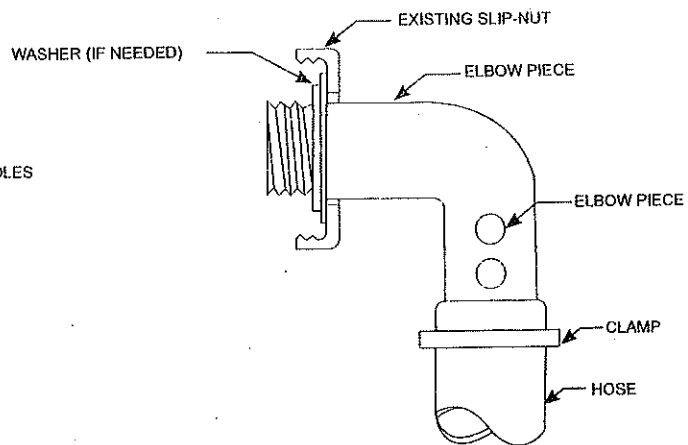

FIGURE 3
3. Refer to Figure 1. Uncoil the hose (3) and remove all twist. Using clamps (15), clamp one end of the hose to the back side of the fountainhead (1) and the other end to the inlet adapter from step 2. Cover one set of bleed holes with the hose (Fig. 3). To tighten clamp, grasp "tabs" between thumb and forefinger and squeeze. Tighten securely with a pair of pliers. To open the clamp, grip one "tab" of the clamp with pliers and twist loose.
4. Using the tie wrap (14), LOOSELY attach the anchor (4) to the hose (3). The anchor (4) should be attached to the hose (3) at a point as the water plus approximately two feet. You will have to estimate what the water depth is where you want the fountain and add two feet. **CAUTION: DO NOT CONSTRICT THE HOSE BY TIGHTENING THE TIE WRAP (14) TOO TIGHT.**
5. Attach the inlet adapter to the pool inlet by screwing the slip-nut back on (Fig. 3).
6. Place the fountain assembly into the pool. Position the fountain in the desired location being careful not to crimp the hose (3).